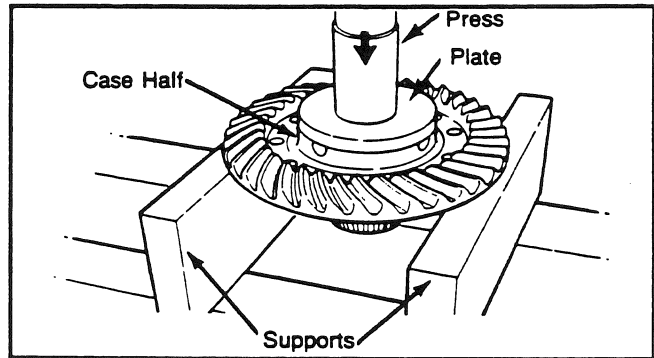

Fig. 16
3. If you are replacing the ring gear, remove the nuts and bolts retaining the gear to the flange case half. Separate the case half and ring gear using a hydraulic press. Support the assembly with wood or metal blocks under the ring gear and press the case half through the gear (see Fig. 16).